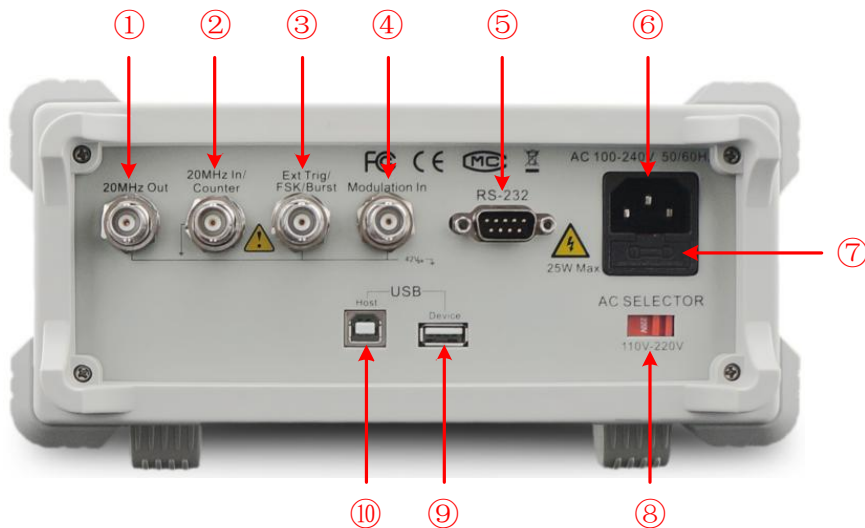

Figure 0-2 Rear panel overview
The waveform generator adopt 110V/220V AC power source. Users should regulate the voltage scale of the **Power Switch** according to the standards in their own country (see Figure 0-2 / 8 on page 61) at the rear panel and use an appropriate fuse.
2. Check if the fuse installed before leaving factory (250 V, F2AL) can match with the selected voltage scale; if not, pry the cover open using a straight screwdriver (Figure 0-2 / 7 on page 61) change the fuse.